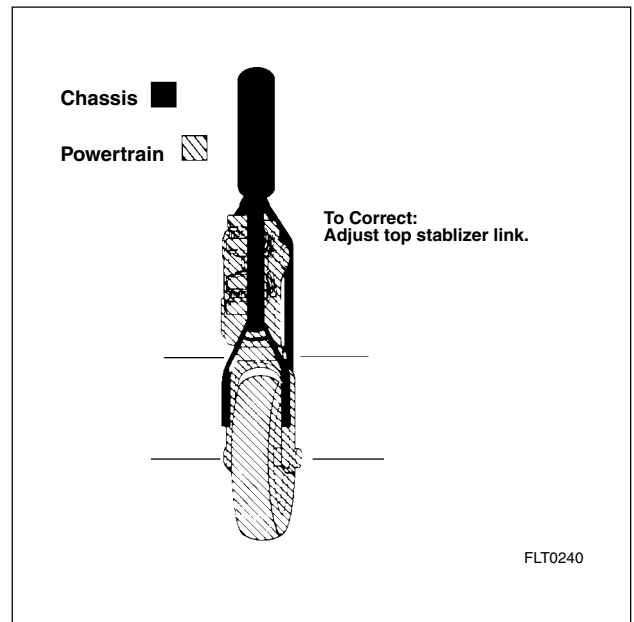

Figure 2-39. Vertically Misaligned
13. After verifying that the motorcycle is level, check vertical alignment placing an inclinometer on both front and rear brake rotors. Front and rear lean angles should be equal $\pm 1/2$ degree. See Figure 2-39. If vertical alignment exceeds specification, proceed as follows: